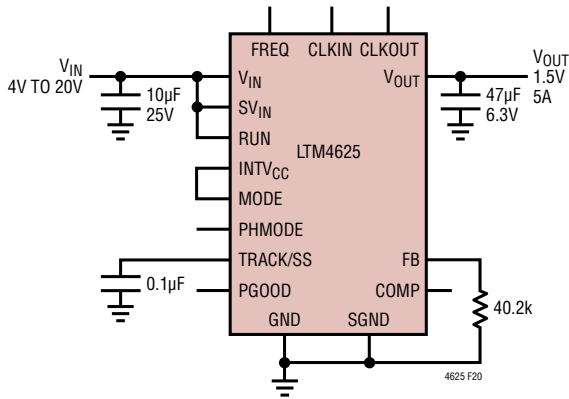

Figure 20. 4VIN to 20VIN, 1.5V Output at 5A Design
**Table 7. Output Voltage Response vs Component Matrix (Refer to Figure 20)**